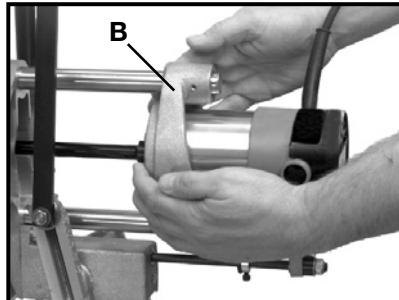

Fig. 9
6. Turn motor switch **ON** and rotate crank (E) until collar (F) hits feed housing, stopping depth of cut and completing mortise.
8. Move feed lever (A) to horizontal position to disengage feed mechanism.
9. Grasp motor carriage (B), Fig. 9, with both hands and pull towards you until bit is clear of cut mortise. Remove mortiser from 2" x 6" (50.8 x 152.4 mm).